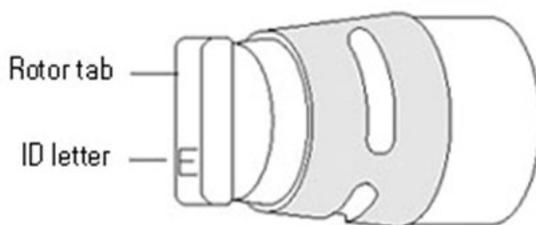
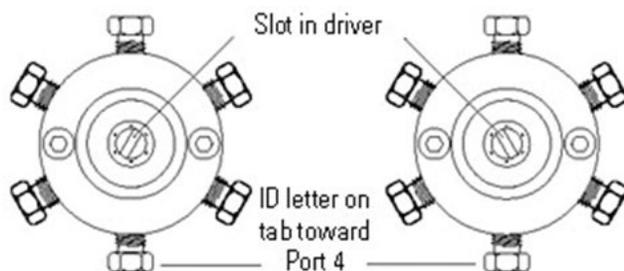

Figure D-3. Location of ID letter on valve rotor
Figure D-4. C6 W valve with preload and rotor removed (preload end view)
1. Place the clean rotor on the pencil magnet and orient it so that the tab properly engages the slot of the drive mechanism. The list in Figure D-3 shows how to orient the ID letter for different VICI valves (C6W is shown in Figure D-4).
2. Insert the rotor into the valve body, being careful that the tab does not touch the polished interior of the valve body. Make sure the rotor tab (Figure D-4) is fully inserted into the slot in the driver.